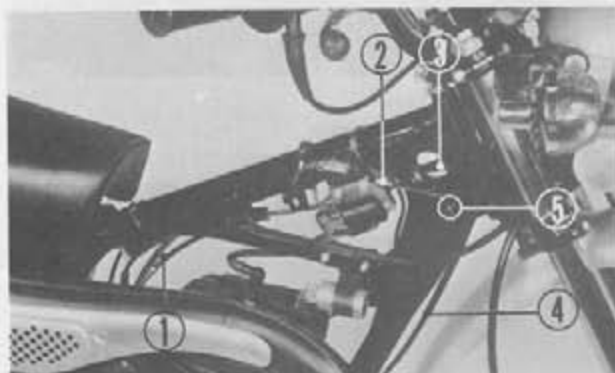

Fig. 4-4 ① Tachometer cable
② Exhaust pipe gasket
③ Exhaust pipe spring
④ 6 mm nut
⑤ 6 mm nut
4. Install the fuel tank routing the cables and wires correctly as shown in Fig. 4-4 and 4-5.